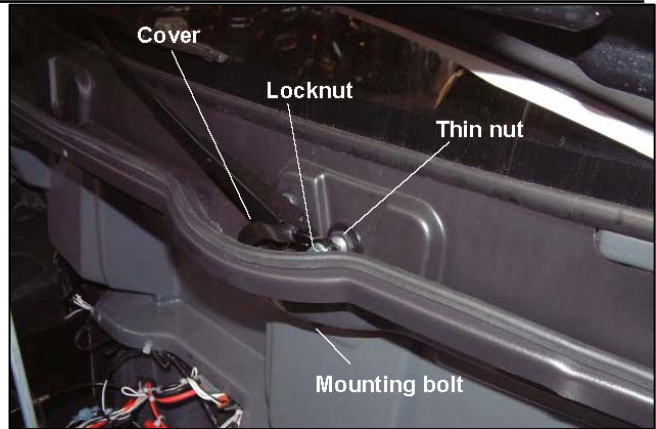

Figure 7-13
2. Unplug wire connectors from wiper motor assembly (Figure 7-13).